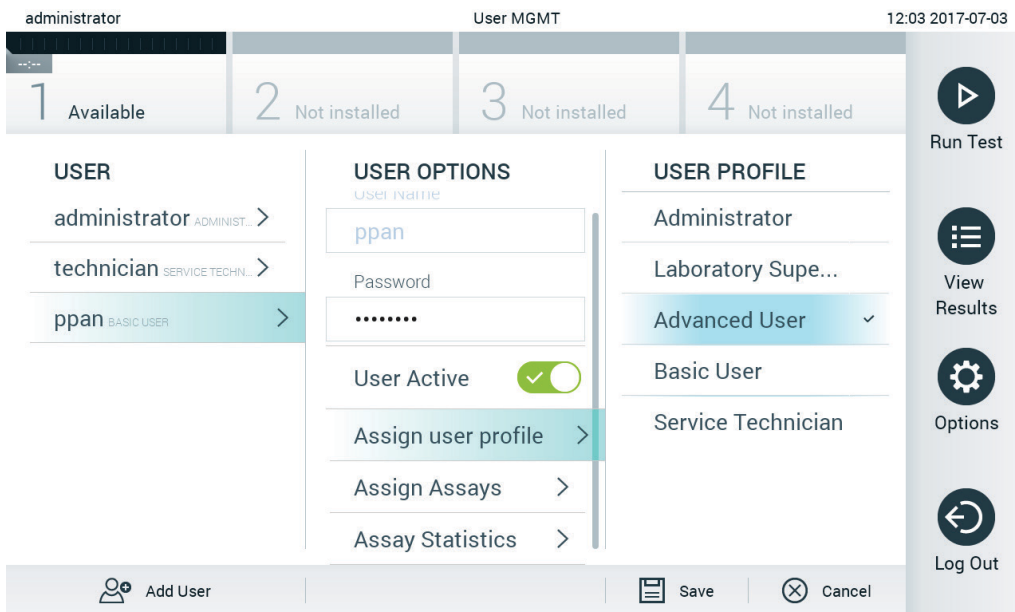

Figure 53. Assigning user profiles to users.
- **Assign User Profile:** Allows assigning a different user profile for that user (e.g., Administrator, Laboratory Supervisor, Advanced User, Basic User). Select the appropriate user profile from the list on the right of the content area (Figure 53).